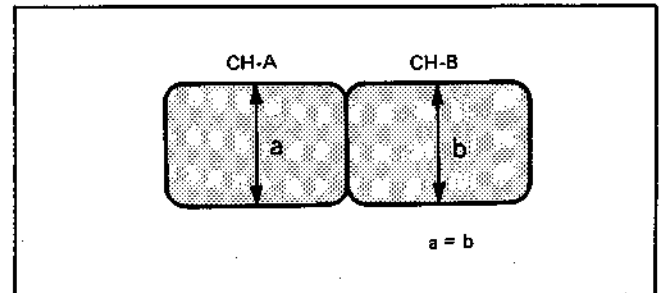

Fig. 3-33
- 4) Match up CH-A and CH-B RF output levels with RP board CH balance (Fig. 3-33)